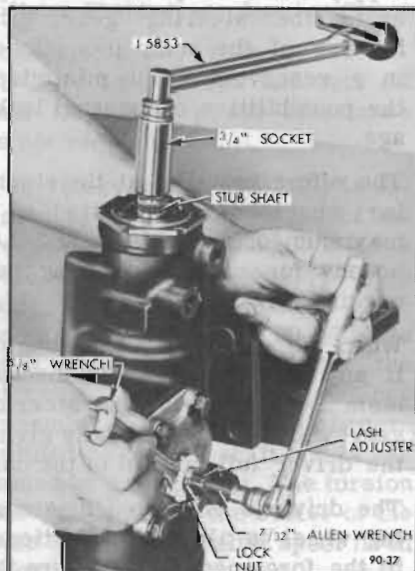

Figure 90-15—Pitman Shaft Over-Center Adjustment
5. If readings are within specifications, check and adjust if necessary, pitman shaft "overcenter" adjustment. Reading on torque wrench should be 4 to 8 pound inches higher than was obtained in Step 4. See Figure 90-15. This reading is taken when rotating stub shaft through "highpoint" range (a minimum of 180° each